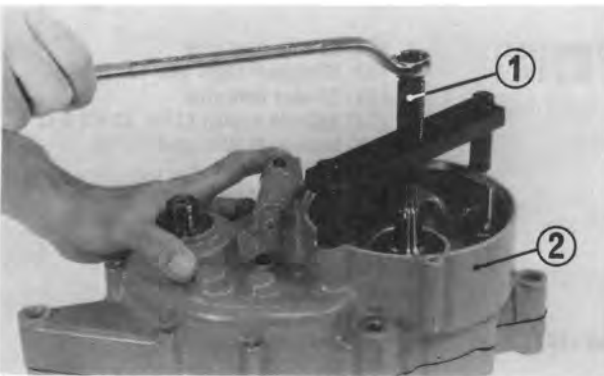

Fig. 3-45 (1) Crankcase disassembly tool (2) Right crankcase
10. Bolt the crankcase disassembly tool (Tool no. 07937-4300000) to the right crankcase as shown in Fig. 3-45. Turn the screw of the tool against the end of the crankshaft periodically tapping the end of the mainshaft to ensure the crankcase halves separate equally at the front and rear.